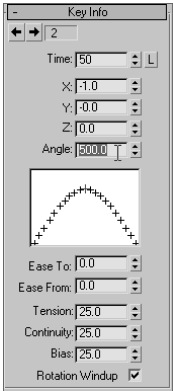

Figure 8.6
3. The Angle parameter changes to a value of 117.643. The X parameter value reads -1.0. The X, Y, and Z parameters represent the direction in the respective axes. The value -1 means the square is rotating backward. Don't get confused because this value is now in X and not Z. Remember, you gave up the individual controls for X, Y, and Z when you changed from the Euler XYZ controller. While at this second keyframe, click on Rotation Windup at the bottom of the rollout, and enter the value **500** for Angle. You must first turn on Rotation Windup to enter 500 for the Angle (Figure 8.6).